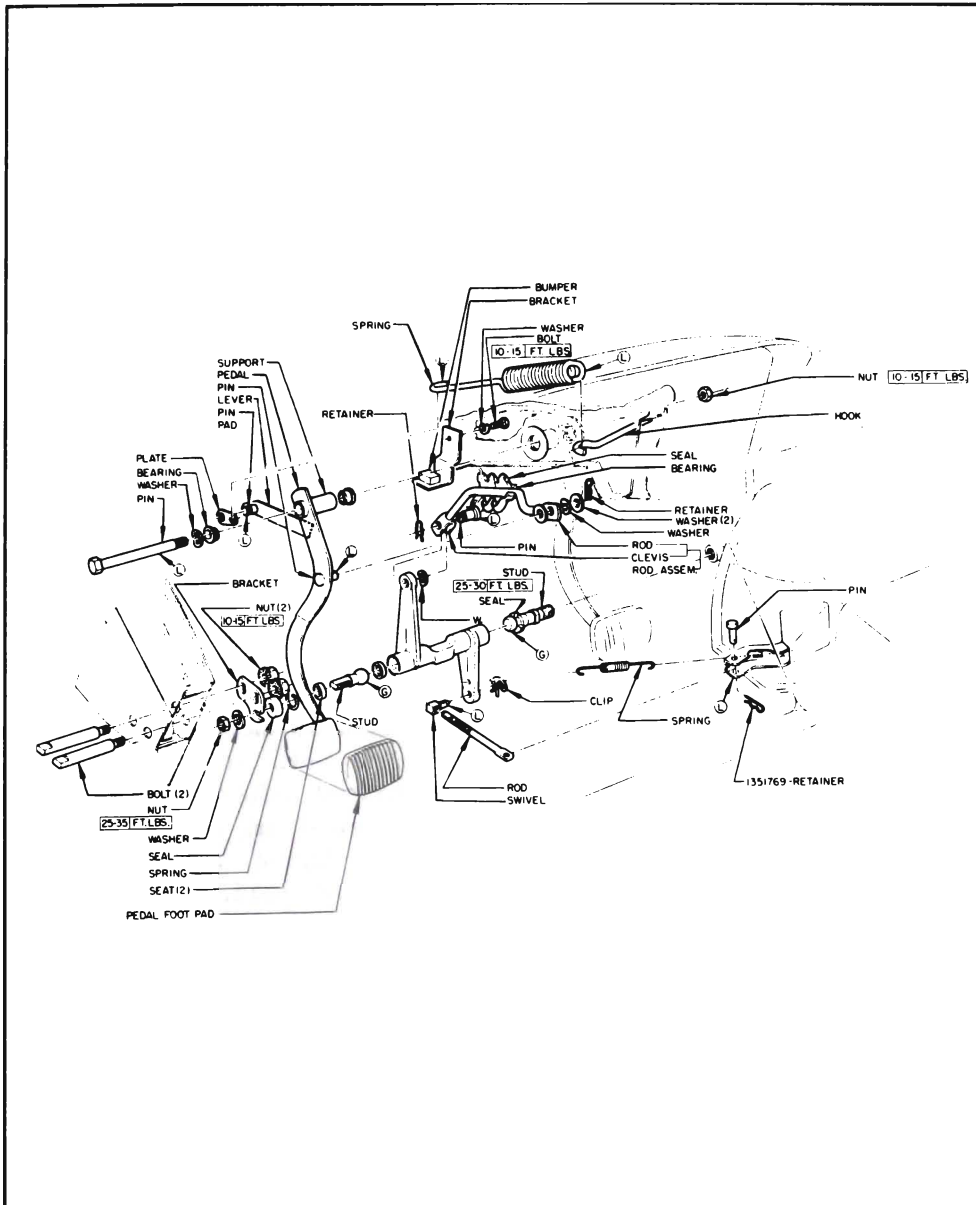

Figure 4-3—Clutch Linkage
The clutch pedal is of the suspended type and pivots on a shaft which extends through brackets bolted to the cowl. This shaft is also used to suspend the brake pedal. The clutch pedal returns against a non-adjustable pedal stop under the instrument panel. See Figure 4-3.
Check pedal lash (free pedal) by pushing on the pedal pad with the hand. Pedal lash should be 7/8" to 1" measured at the pedal pad. (See Figure 4-3).
2. With car raised, pull outer end of clutch fork rearward until throw-out bearing contacts clutch release levers. Free movement at outer end of fork should be approximately 3/16". See Figure 4-3.